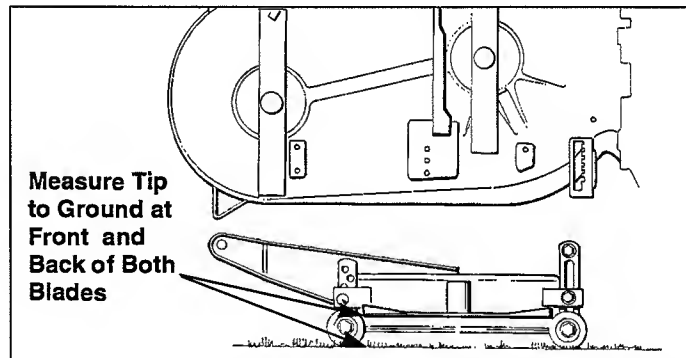

Figure 28. Front-to-Back Leveling (38" Deck Shown)
1. Arrange the blades so they face front-to-back (see Figure 28).
2. See Figure 28. Measure the distance from the ground to the front and rear tips of each blade. The measurement should be equal for both blades. Front tips should be equal to rear tips or within 1/8" higher. If not, proceed to step 3.